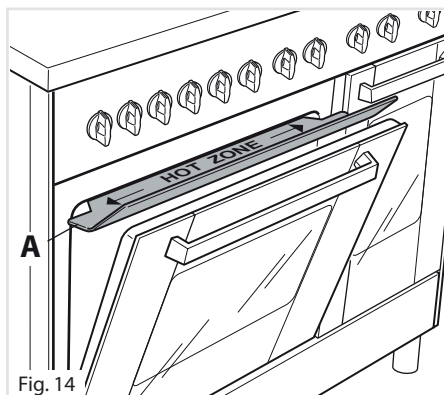

Fig. 14
Always fit the heat shield supplied with the cooker under the front panel before commencing operations (Fig. 14).
Very important: the grill must always be used with the oven door slightly open and with shield "A" mounted (Fig. 14).
- It is important that the heat shield is fitted the correct way up, as shown in the figure 14.